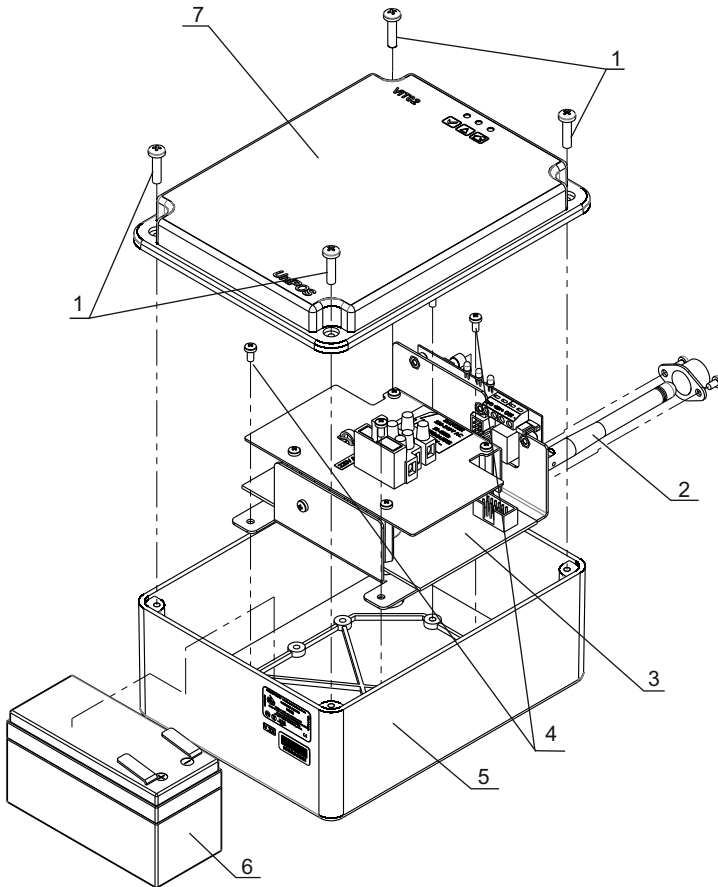
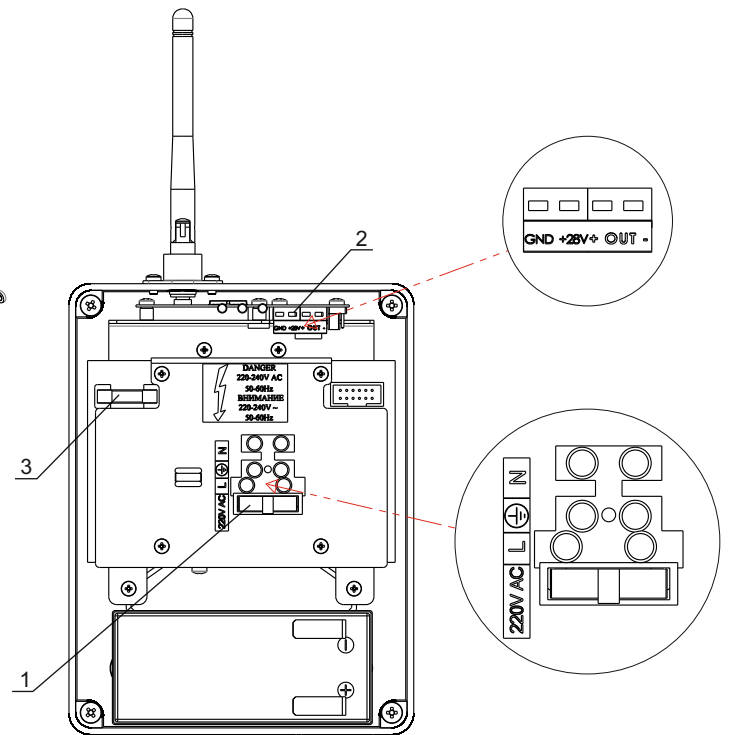

Fig.2
Fig.3
The router consists of power supply unit, attached to a metal frame (pos.3, fig.2), and a radio module with external antenna (pos.2, fig.2), mounted into a plastic box with base (pos.5, fig.2) and cover (pos.7, fig.2). Under the radio module, on the right side, are located the monitored output terminals, for connection with external devices (pos.2, fig.3).
2.4. Dismantle the cover (pos.7, fig.2) from the base (pos.5, fig.2) by developing the four screws (pos.1, fig.2). Fit the battery (pos.6, fig.2) and join the wires to the terminals thereof. Red wire to (+) and to blue (-) battery. Yellow LED lights (mains supply). The router booster scans all channels. Allow registration of the control panel.
- 3.1. If necessary dismantle the cover (pos.7, fig.2) from the base (pos.5, fig.2) by developing the four screws (pos.1, fig.2).
- 3.2. Remove the battery (pos.6, fig.2) and remove the antenna (pos.2, fig.2).
- 3.3. Dismantle the chassis (pos.3, fig.2) from the base (pos.5, fig.2) by developing the four screws (pos.4, fig.2).
- 3.6. The wires are passed inside the box. Basis (pos.5, fig.2) is attached to the wall using appropriate fixings, keeping the place chosen in accordance with the detailed design and the assessment of patency of the signal.
- 3.7. The base (pos.5, fig.2) is mounted chassis - kit (pos.3, fig.2) by four screws (pos.4, fig.2)
- 3.8. Remove the fuse (pos.1, fig.3) and join the wires of the mains power supply and monitored output (pos.2, fig.3) (where the output will be used). When delivered, the controllable output terminals are terminated with 5.6kΩ resistor.
- 3.9. Mount the antenna (pos.2, fig.2).
- 3.10. Fit the battery (pos.6, fig.2) and join the wires to the terminals thereof. Red wire to (+) and to blue (-) battery.
- 3.11. Place the fuse (pos.1, fig.3). The device is powered from power supply.
- 3.12. Mount the cover (pos.7, fig.2) to the base (pos.5, fig.2) by four screws (pos.1, fig.2).